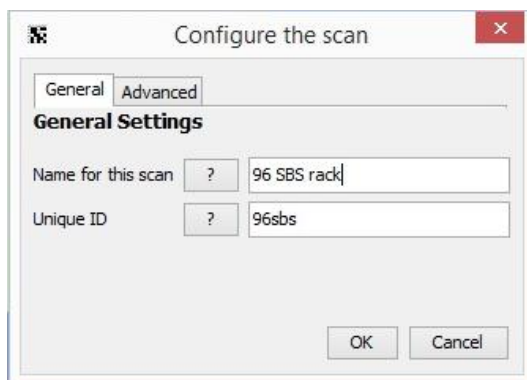

Figure 15 : Configure the scan
2. A prompt appears to Configure the scan (Refer to Figure 15):